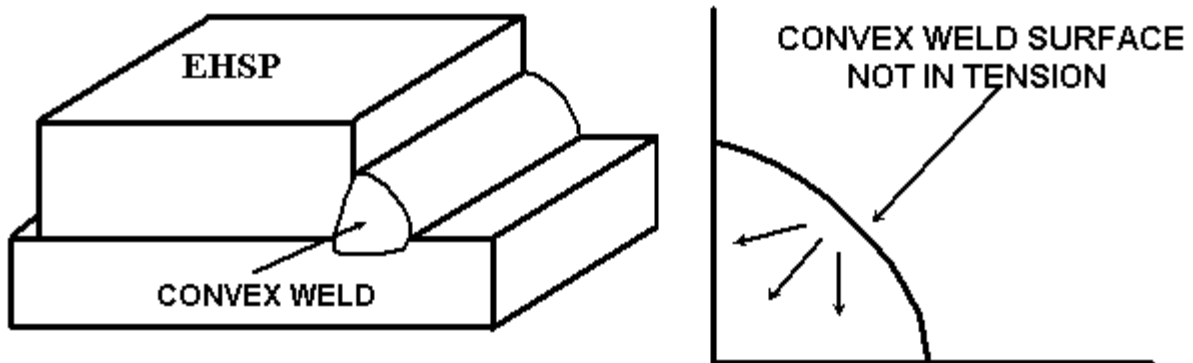

Fig 3a & 3b. Convex fillet welds are recommended in order to eliminate weld shrinkage cracking
- Convex fillet welds (Figure 3a & 3b) are desired in order to avoid shrinkage stresses cracking of the weld. For multiple pass fillet welds, the convex bead shape is usually applies on the first weld.